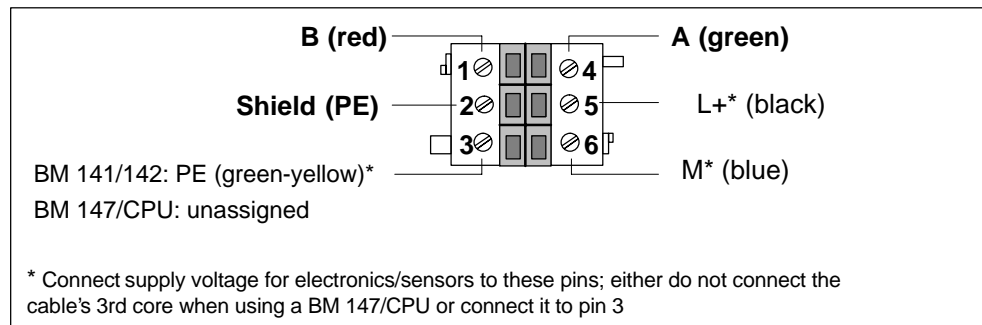

Figure 4-10 Pinout of the connector for wiring PROFIBUS-DP and the supply voltage for the electronics/sensors
- A 2-core cable, shielded for the PROFIBUS-DP terminal connection (the braided shield must be twisted, inserted in a wire end ferrule and connected to pin 2 of the shield; see Figure 4-10)
If you want to loop PROFIBUS-DP and/or the supply voltage for the electronics/sensors through to the next ET 200X, you have to wire the second connector. This connector must be wired in exactly the same way as the connector for feeding the first ET 200X (see Figure 4-10).